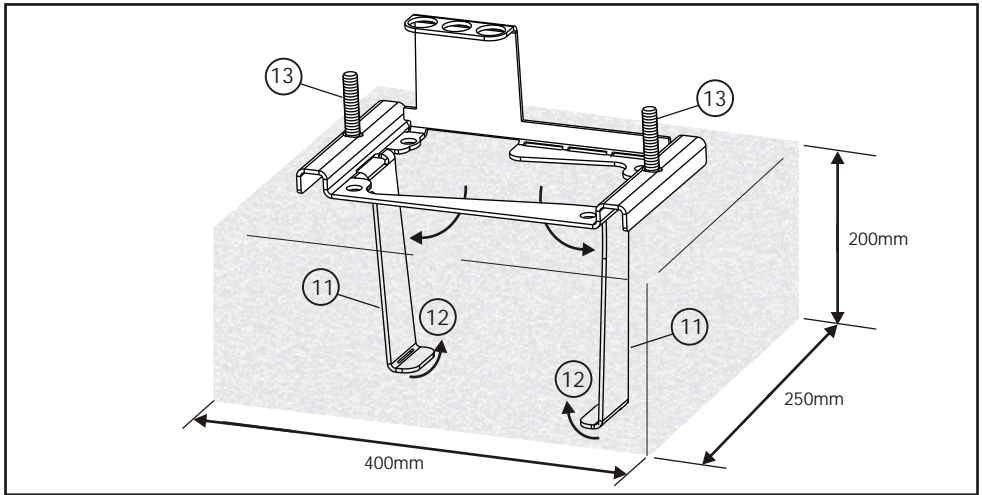
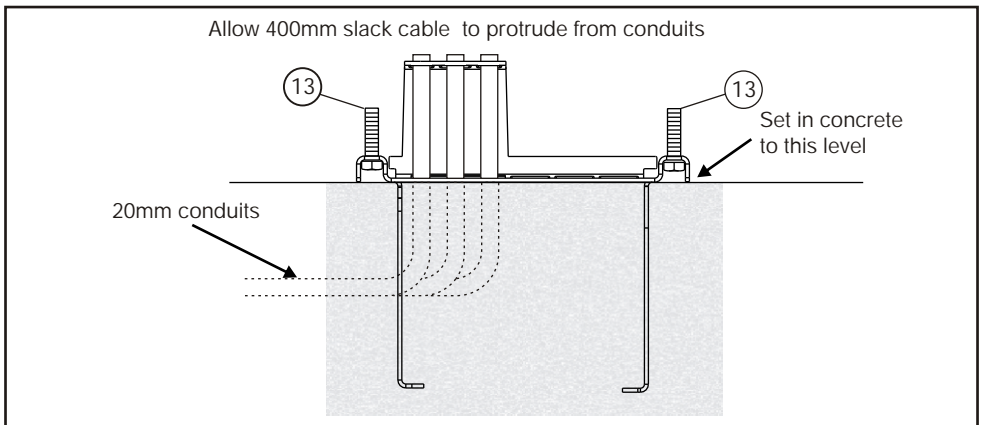

Figure 13 Foundation Plate Anchors
Figure 14 Set Foundation Plate in Concrete
- The anchors (11) must first be bent down as shown in Figure 13.
- Use self locking or crimping pliers to bend the anchor tips (12) to the horizontal plane.
- Make sure the M10 bolts (13) which secure the gearbox are in place.
- Refer to Figure 14 to ensure correct positioning and set the foundation plate in concrete to the level indicated